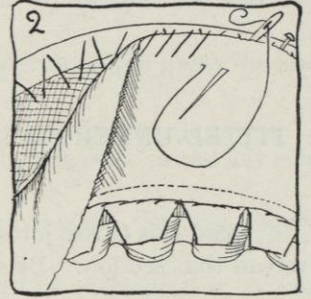

FIG. 2.
- e. Sew at headsize with $\frac{1}{2}$ -inch forward stitches and $\frac{1}{4}$ -inch back stitches, half way between top headsize and lower headsize (see Figure 2 of Job 33, page 133). No stitches should show at headsize when the lining is in; therefore, sew half way between the headsizes. As you sew, do not catch any material of the top facing that may be above the headsize wire. It will be difficult to remove the wire if you do.
f. Finish edgewire—follow *either* Section (1) or Section (2) or Section (3).
(1) For raw edge, follow *either* Section (a) or Section (b).
(b) If top facing has a finished edge, cut off the under facing so that it comes *just inside* the edge, pin it in place and overcast the under facing to the top facing (see Figure 2). This would then probably be finished with a circular ribbon flange.
- a. Use $\frac{1}{2}$ -inch forward stitches and $\frac{1}{4}$ -inch back stitches half way between top and lower headsize (see Figure 2 of Job 33 and read Section 2 *c* of that job, page 133).
- (2) If top facing has a finished edge, cut off under facing so that it comes *just inside* the edge, pin in place, and overcast under facing to top facing. The raw edge would then probably be finished with a circular ribbon flange (see Figure 2 of Job 37, page 149).